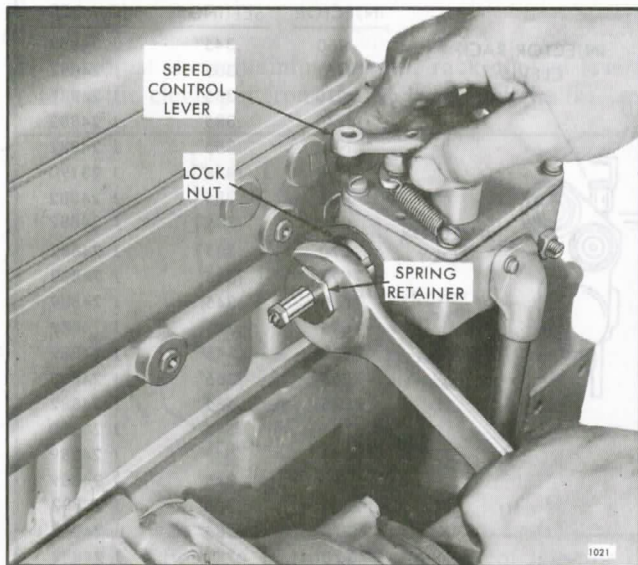

Fig. 8 - Adjusting Maximum No-Load Speed
1. Loosen the locknut and back off the high-speed spring retainer approximately five turns (Fig. 8).